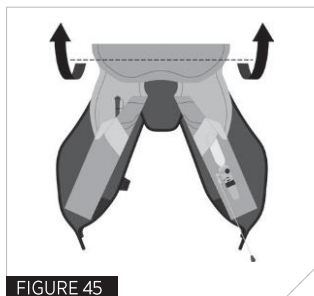

FIGURE 45
10. Create a concertina fold along fold line 10 (Fig 45).